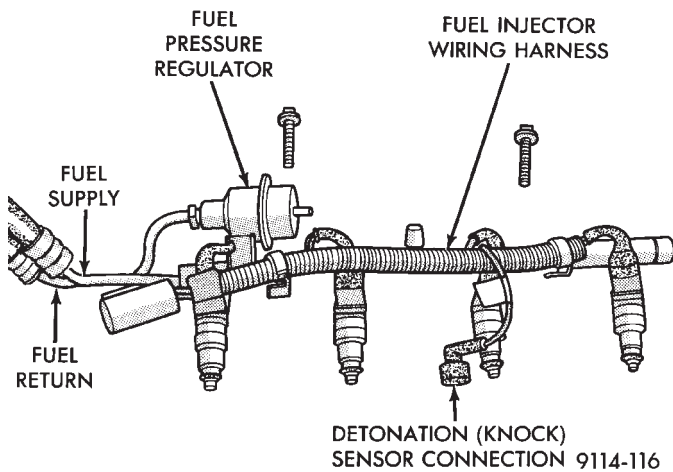

Fig. 12 Fuel Rail Assembly
(4) Repeat steps for remaining injectors.
(5) Install injector wiring harness to injectors and fasten into wiring clips (Fig. 12).